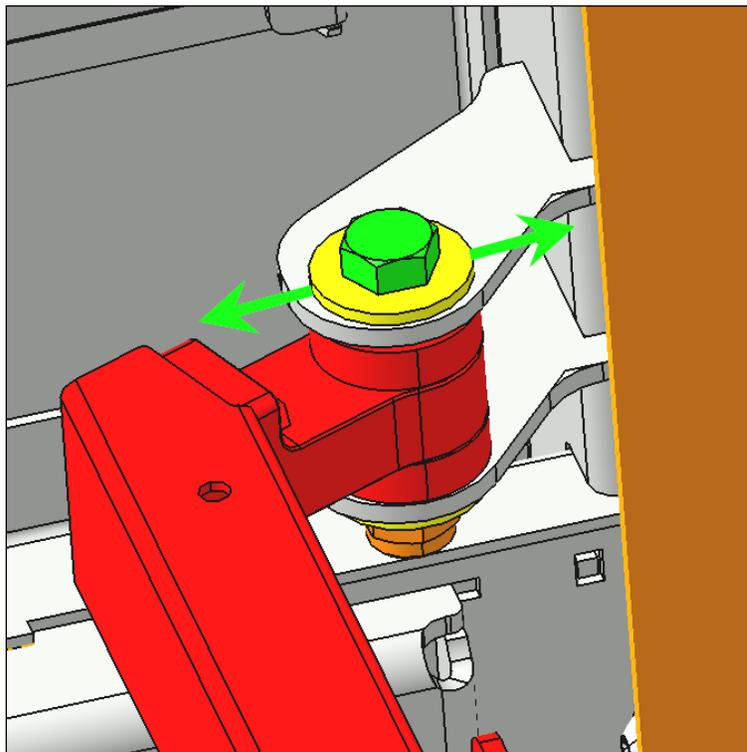

FIGURE 9
8. If the longitudinal position is out of tolerance, adjust using the adjustment provided on the lower attachment point of the arm on the vehicle chassis (FIGURE 9).